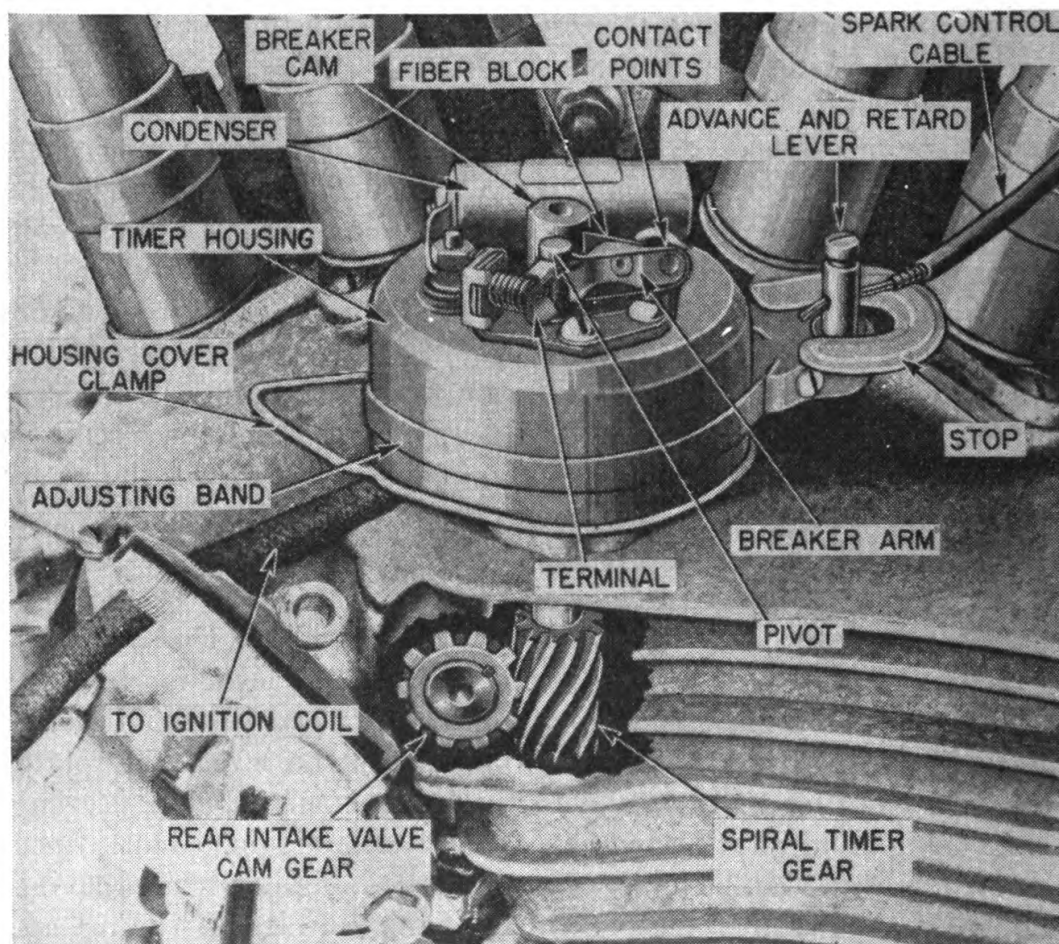

FIGURE 97.—Typical ignition timer.
*b.* A cutaway view of a typical timer is shown in figure 97. The contact points consist of a stationary point and a movable point (breaker arm). The stationary point is grounded and completes the circuit when the points are in contact. The breaker arm is connected to the primary winding of the ignition coil. The terminal end of the arm is pivoted and a small spring tends to hold the point of the arm in contact with the stationary point. A fiber block fastened to the center of the breaker arm rides on the timer cam. As the cam rotates, its high lobe lifts the breaker arm, breaking the circuit at the contact points. The cam forms the upper part of the timer shaft. A spiral gear is cut in the lower end of the shaft. This gear meshes with the rear intake valve cam gear of the engine, which gives it power for driving the timer.
**80. Condenser.**—*a.* Early condensers were located within the ignition coil, but present practice places them inside the ignition timer or circuit breaker as shown in figure 97. One condenser side is grounded with the stationary contact point. The other condenser